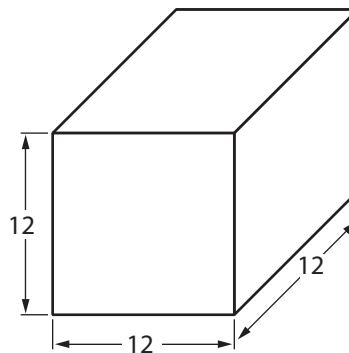

Figure 3 – Cavalier oblique view of a cube
At first glance, an oblique view looks similar to a perspective view. However, there's no vanishing point—all lines are drawn to their true length, measured on the axes of the projection. This type of view is relatively easy to draw. It's known as a cavalier oblique view (Figure 3). Usually a 45 degree angle is used.
3. c. Figure 3